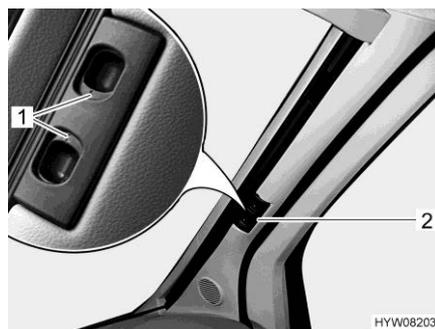

Fig. 58 Roman shade (windscreen)
- Press the release handles (Fig. 58,1) and hold them down.
- Use the handle (Fig. 58,2) to pull the Roman shade for the windscreen towards the centre of the window.
- Use the handle (Fig. 58,2) to pull the two halves of the Roman shade for the windscreen outwards as far as they will go. As you do so, lift the handle up as high as the locking recess.
- Let go of the release handles (Fig. 58,1) and let them engage.